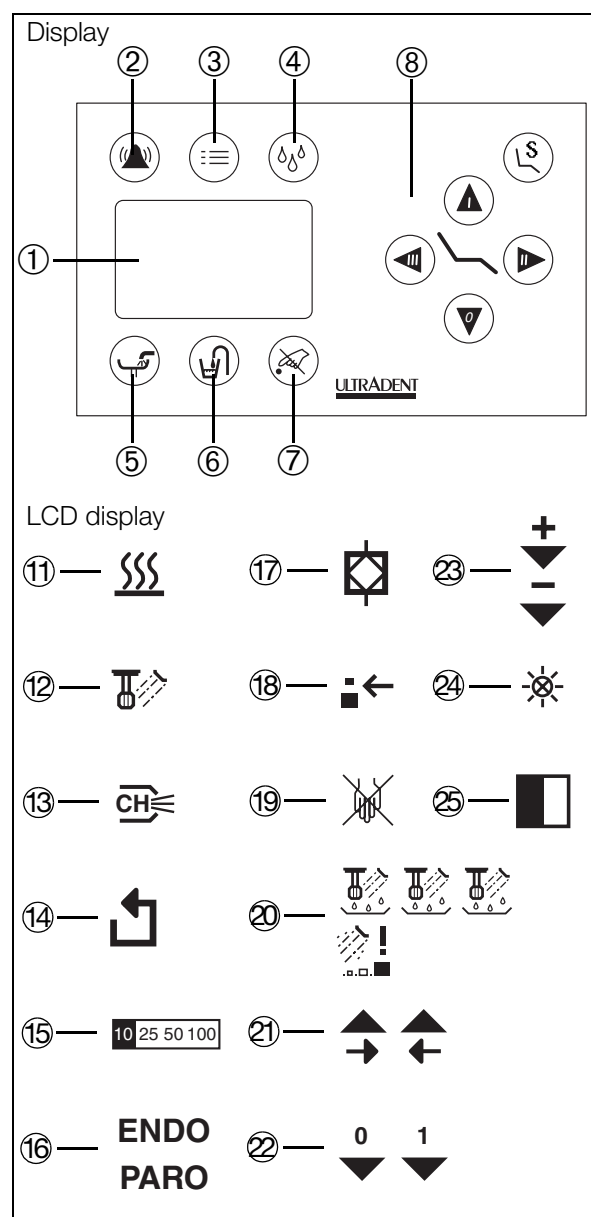

Fig. 8
The unit includes an LCD display to visualize the unit and instrument functions ① (Fig. 8). The functions are represented by large, easily comprehensible symbols.
Additional settings and functions can be carried out by pressing the symbols ②, ③, ④, ⑤, ⑥, ⑦, ⑧ (Fig. 8) on the display.